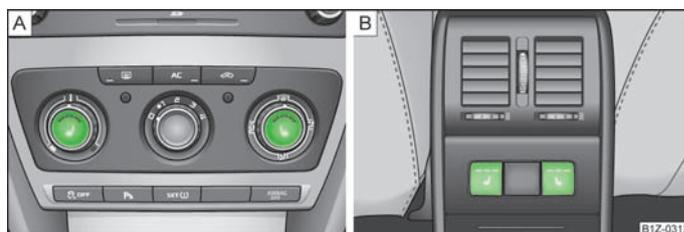

Fig. 43 Regulator for heating the front seats/rear seats
- > The seat heaters on the driver's and front passenger's seat can be switched on and regulated by pressing the button in the area of the symbol  or  » Fig. 43 -  A.
- > The heaters on the left or right rear seats can be switched on and regulated by pressing the regulator  or  » Fig. 43 -  B.